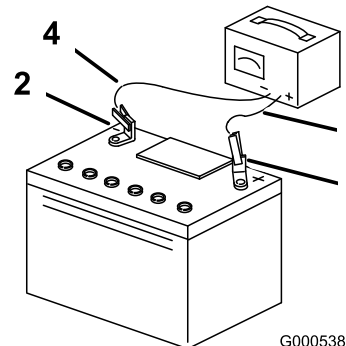

Figure 36
3. When the battery is fully charged, unplug the charger from the electrical outlet, then disconnect the charger leads from the battery posts (Figure 36).